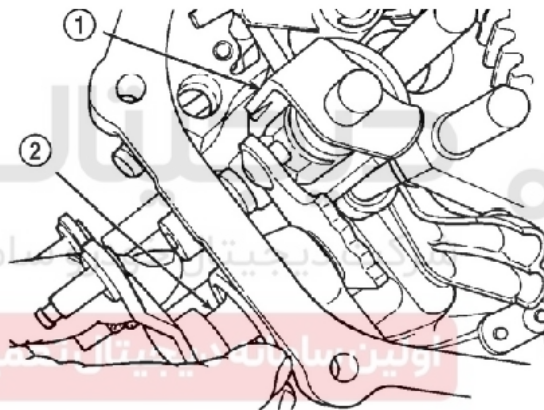

Figure 3-70 Shift shaft
- (11) Disassemble the gear box from the plate jig.
- (12) Put the end plate downward and mount the gear box on the clamp.
- (13) Fix the shift shaft in stop block assembly groove (Figure 3-70).